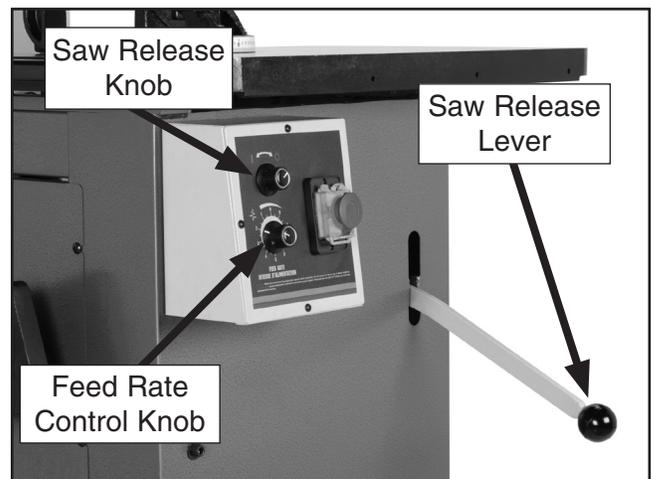

Figure 22. Adjusting feed rate.
1. Be sure the saw is at the start position by pushing the saw release lever all the way down (**Figure 22**).